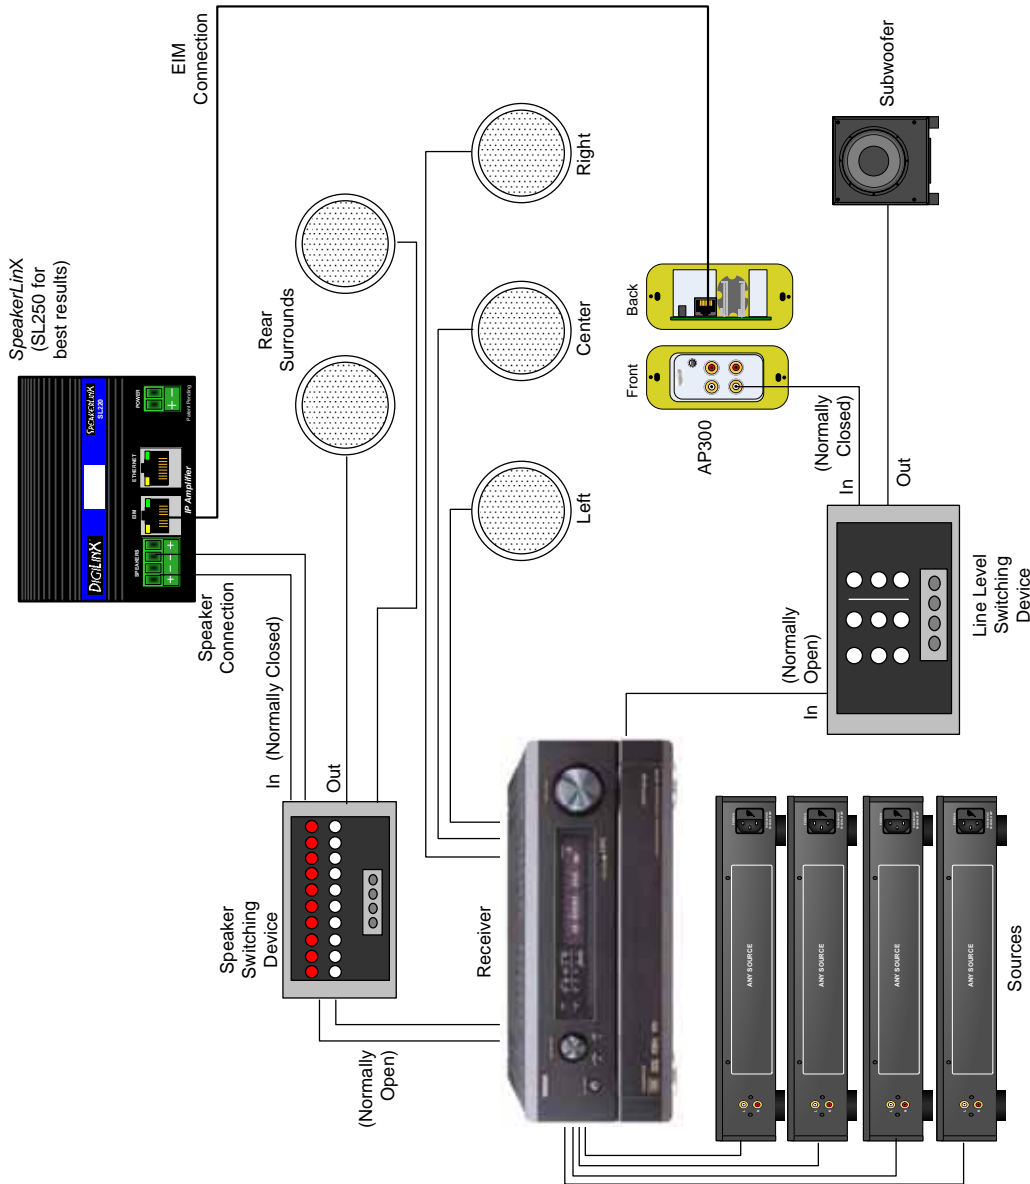

Figure 15-2 Home theater configuration
Figure 15-2 shows you how to wire a home for surround sound audio.
1. Connect each of the sources to the theater receiver as needed (four are shown in Figure 15-2).